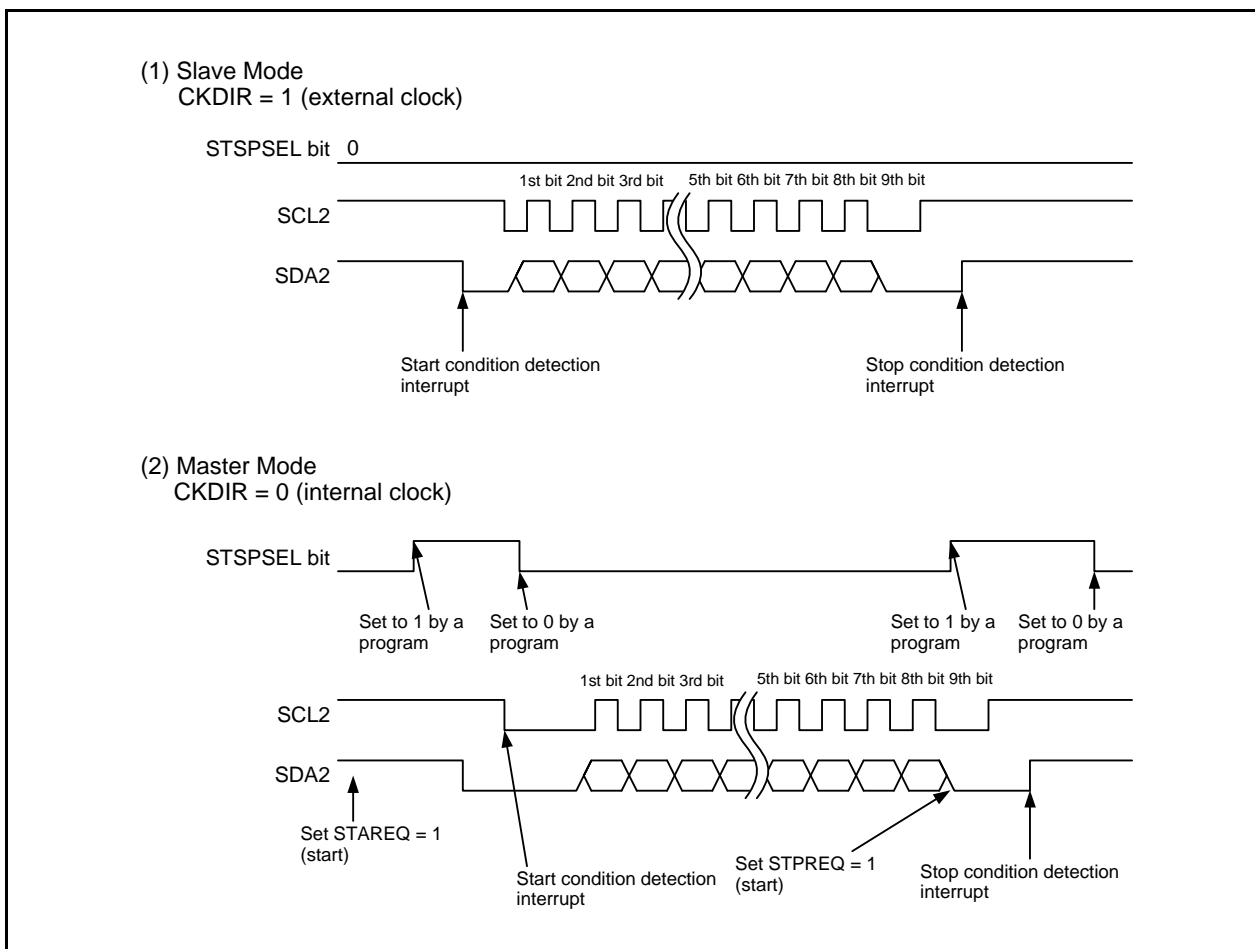

Figure 20.16 STSPSEL Bit Functions
4. Refer to **Figure 20.16 STPSEL Bit Functions**.
Table 20.12 lists the STSPSEL Bit Functions and Figure 20.16 shows the STSPSEL Bit Functions.